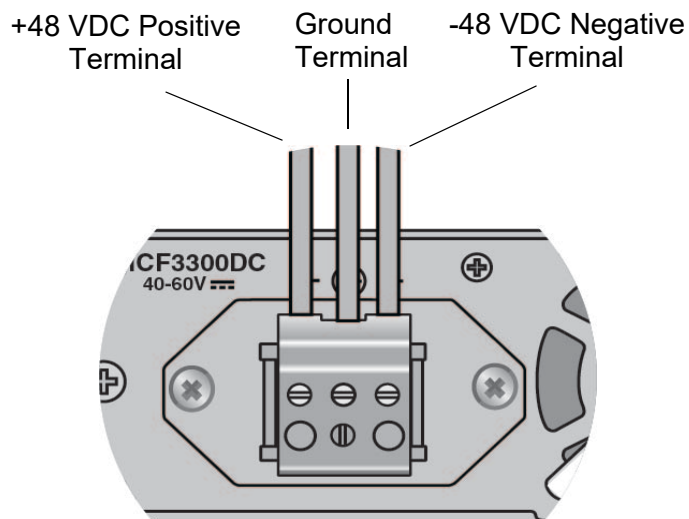

Figure 77. Power Wires on the MCF3300DC Power Supply
2. Disconnect the -48 VDC feed wire from the terminal marked - (minus). Refer to Figure 77.